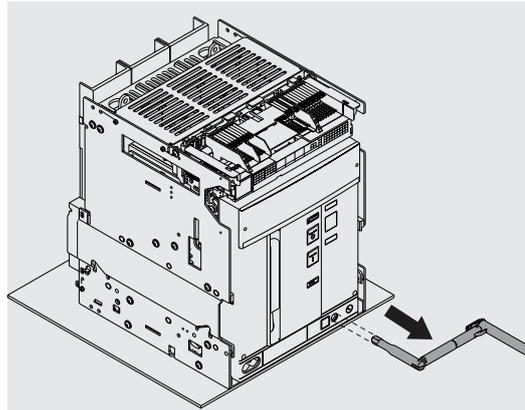

Figure 92
12. Extract the crank. See Figure 92.